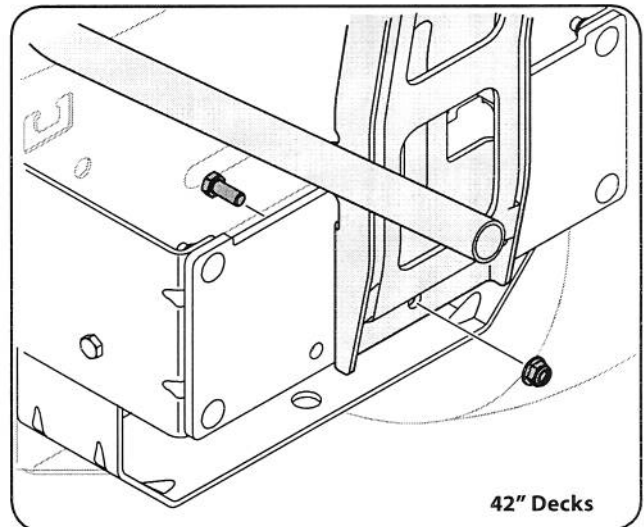
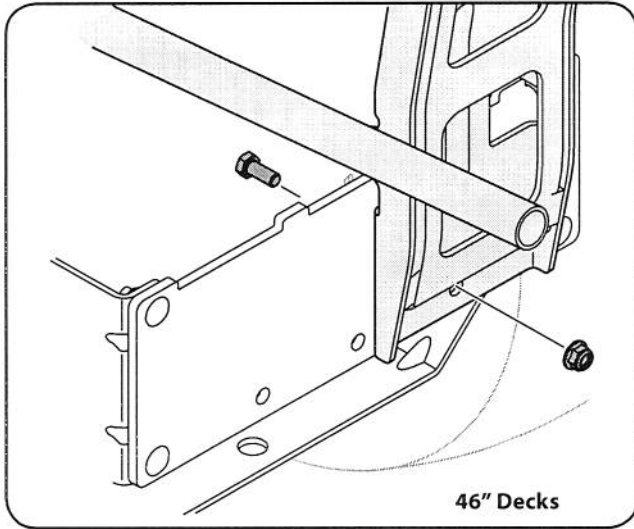

Figure 4-10
Figure 4-11
6. Secure the bag support assembly to the mounting assembly using a hex bolt (710-3008) and flange lock nut (712-04063) provided in hardware pack 689-00087. See Fig. 4-10.
Note: On tractors with 42" decks the support assembly mounts in the center hole as seen above in Fig. 4-10. On tractors with 46" decks, the support assembly mounts in the right hand hole as seen in Fig. 4-11.